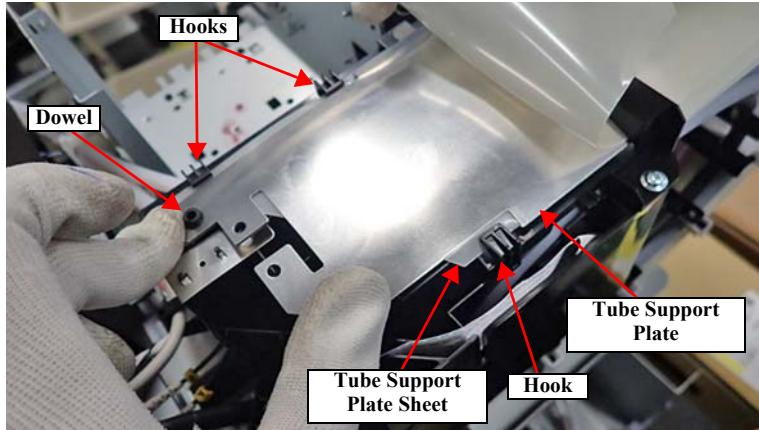

Figure 3-299.
6. Align the hole of the Tube Support Plate Sheet and the 2 Tube Support Plate with the dowel shown in Figure 3-299 and make sure the Tube Support Plate Sheet and the 2 Tube Support Plate are set in 3 hooks.